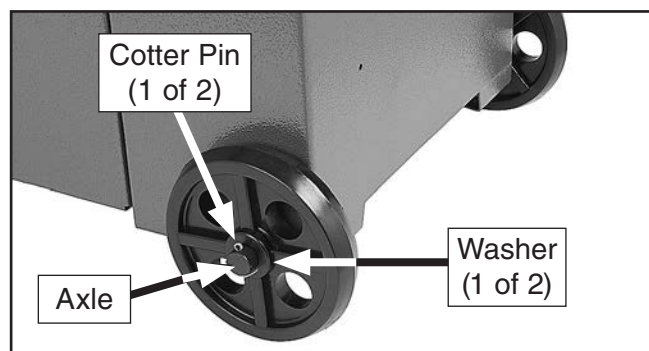

Figure 11. Wheels secured with cotter pin.
2. Slide one flat washer onto the axle, followed by a wheel and another washer. Secure with cotter pins, as shown in **Figure 11**.